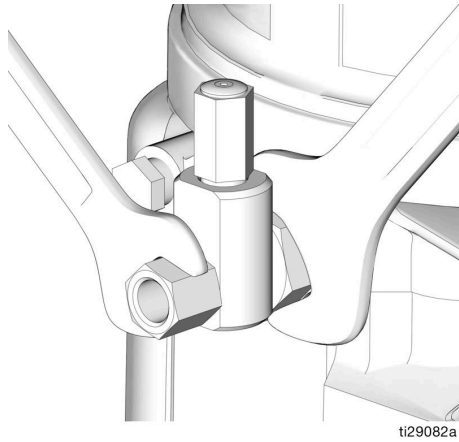

FIG. 32
1. Loosen pump element fitting (FIG. 32).
3. Tighten pump element fitting using two wrenches working in opposite directions (FIG. 32).